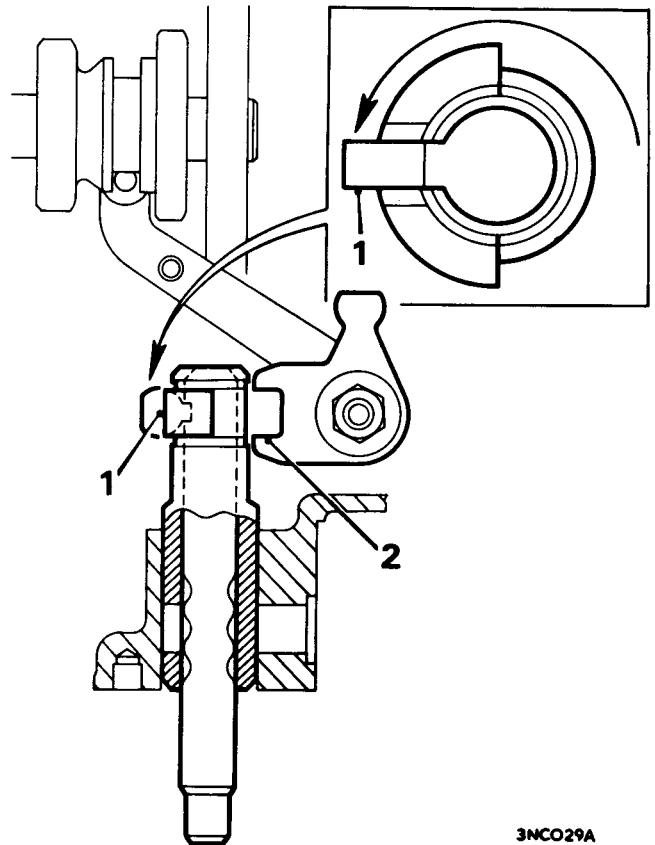

Fig. F.14
17. Rotate the selector shaft anti-clockwise to disengage the operating stub and the interlock spool from the bellcrank levers, Fig. F.14.